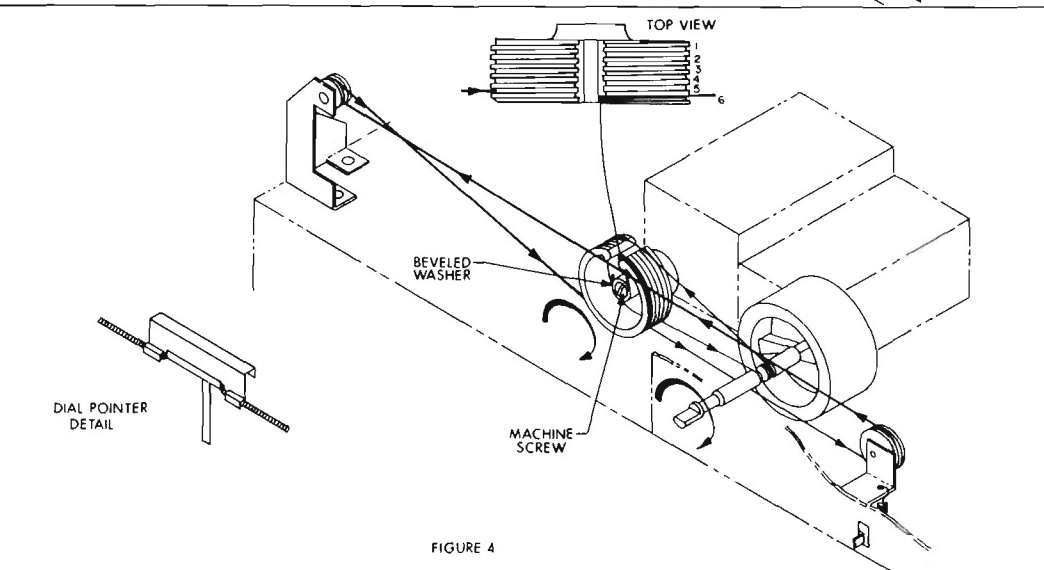

FIGURE 4
- (15) Run the loose end of the dial cord out through the slot in the drive drum and place it in groove 3 (see side view). Guide the dial cord around pulleys A and B.
- (16) Rotate the drive drum to its maximum clockwise position (Figure 4). Keep the dial cord taut during this procedure.
- (17) Guide the dial cord under the drive drum and into the last groove (see top view). Bring the dial cord up and around groove 6 and into the slot in the drive drum.
(7) Connect DC VTVM, set to 1.5-volt range, through a 100K to Test Point 302. Set generator to 10.7 MHz (Mc) with no sweep.
(8) Align top core of Z304 on IF amplifier board for reading on DC VTVM of 0 ± 0.2 VDC.
(9) Connect scope to LEFT or RIGHT CHANNEL RCDR HIGH jack. Set generator for sweep.
(10) Align bottom core of Z304 for maximum amplitude, linearity and symmetry (see Figure 4).
(11) Set generator to 10.7 MHz (Mc) with no sweep. Increase generator output to 200 mV.
(12) Adjust FM Meter Adjust Pot. R702 on meter and muting board for reading on tuning meter of 5.
(13) Align core of Z701 on meter and muting board for maximum indication on tuning meter; readjust generator voltage as necessary so meter reads between 2 and 4.
(14) After alignment, reconnect Test Point 501 on front end to ground.